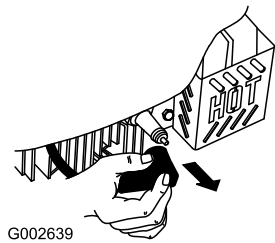

Figure 35
- Disconnect the spark plug wire from the spark plug (Figure 35) before performing any maintenance procedure.